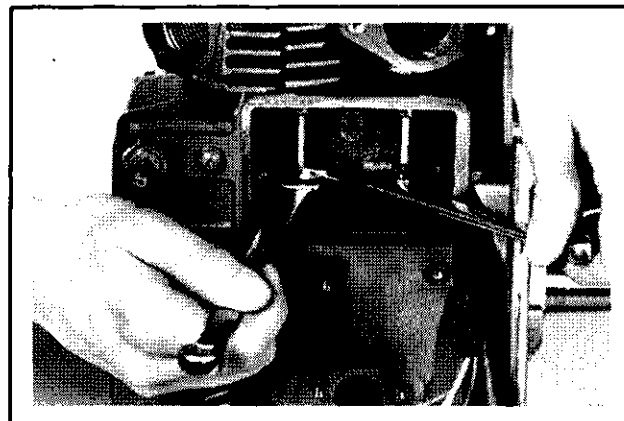

Figure 12B-24. Adjusting Valve-To-Tappet Clearance.
4. Install the valve spring upper retainers, valve springs (close coils to top), intake valve spring lower retainer, exhaust valve rotator, and valves. Refer to Figure 12B-25.